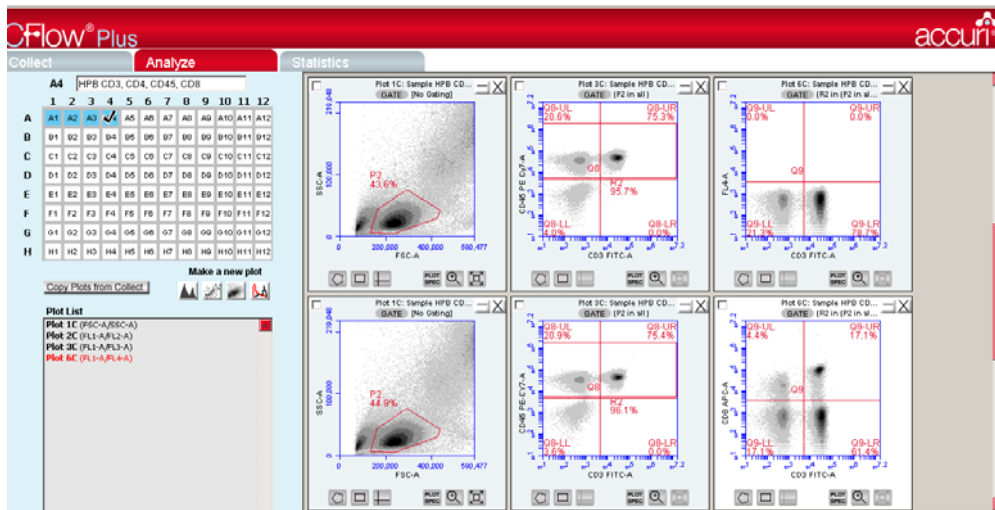

Figure 4-8 Analyze Tab view after adding 2 more rows of Plots 1C, 3C and 6C, and populating with data from Sample A3 and A4.
12. Select Plots 1C, 3C and 6C for these two rows of the Analyze tab, and populate the plots with data from Sample A3 (in Row 3) and Sample A4 (in Row 4). (Figure 4-8).